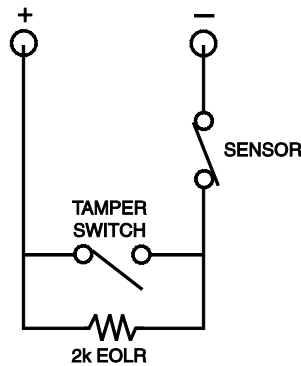

Figure 3-12: Wiring a Normally Closed Sensor Loop for Tamper Supervision
- If you are using a normally closed sensor, the tamper switch must be normally open. Refer to *Figure 3-12* for the wiring configuration.